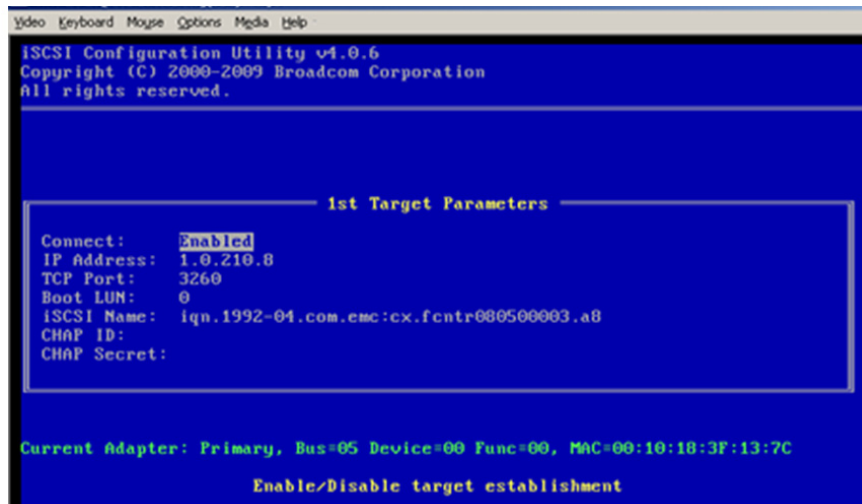

Figure 33 Setting up 1st Target Parameters
7. Set up the **1st Target Parameters**, as shown in the example in Figure 33.
12. Set up the **2nd Target Parameters**, as shown in the example in Figure 33.